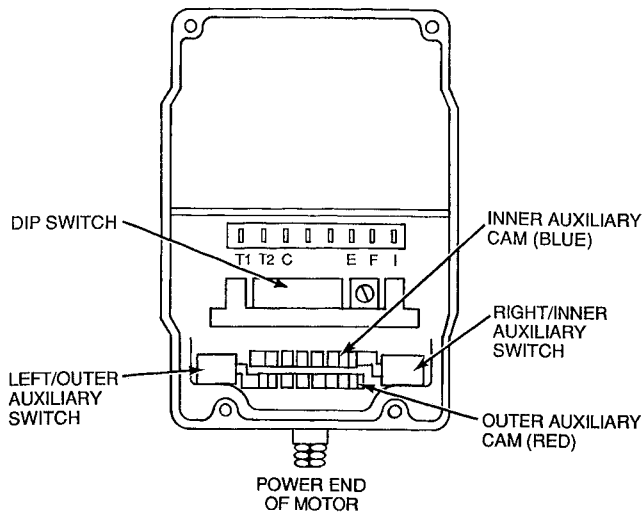

**Fig. 30 — Auxiliary Switch Stroke Adjustment**
**Auxiliary Switch, Power Exhaust** — All NB,NP units with the modulating power exhaust option have 2 auxiliary switches mounted on the cams inside the power exhaust damper motor. The switch cam is factory set to energize the second power exhaust motor. A pointer is printed on the red cam and the numbers 35 and 63 are both printed on the blue cam. See Fig. 30.